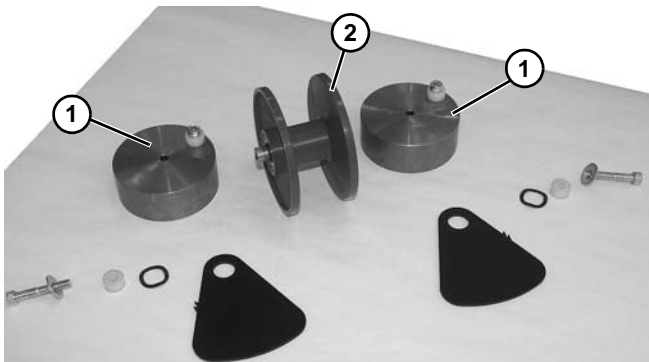

Figure 157
9. Remove weights (**Figure 157, item 1**) from each side of pulley (**Figure 157, item 2**).